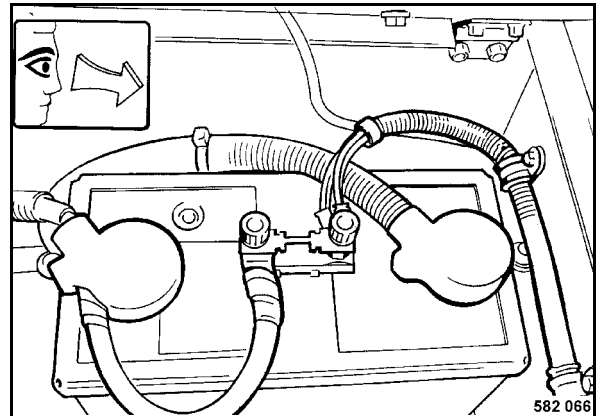

Fig. 70
- Remove the battery (Fig. 70) and clean the battery compartment.